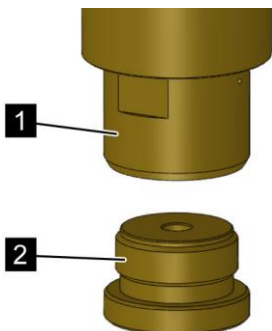

Fig. 173: Resetting the release pin
2. ➤ Deactivate the electrical release device if necessary. To do this, screw the screw reset tool (Fig. 173/2) into the electrical release device (Fig. 173/1) by hand until the stop.